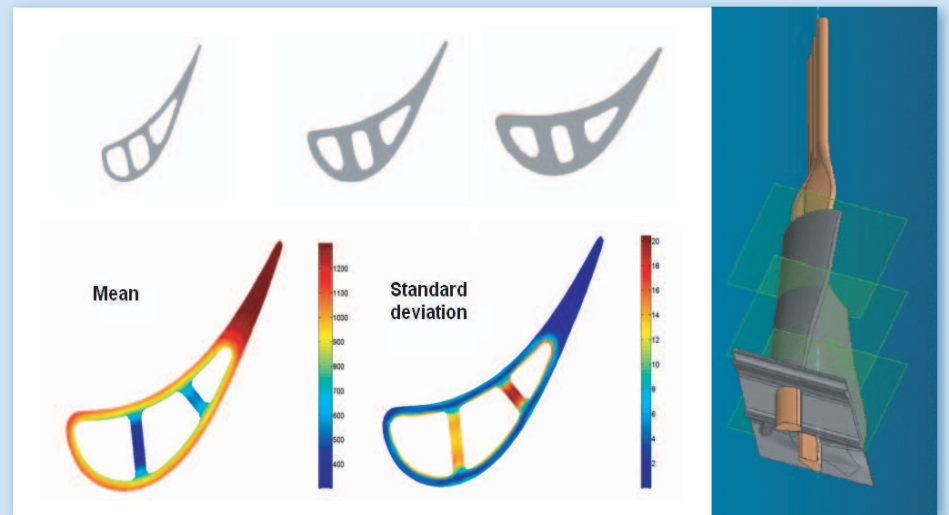

Fig.3 Measurement locations and effects of uncertainty. Project HIPARSYS.
- Blade wall thickness analysis and core shape optimization (HIPARSYS) (Ivan Voutchkov, Tony Scurr – Fig. 3)